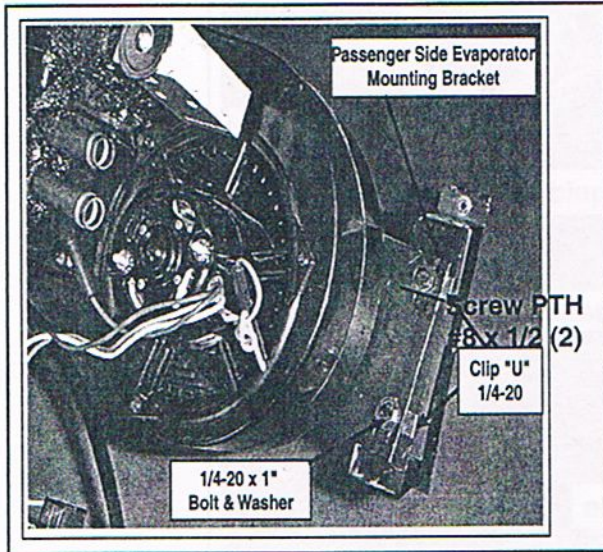

FIGURE 5
14. Secure the vacuum solenoid valves to the passenger side mounting brackets with hardware provided cut and secure vacuum hose to vacuum valves (as shown) reinstall passenger side mounting bracket. (FIGURE 5 & 6)